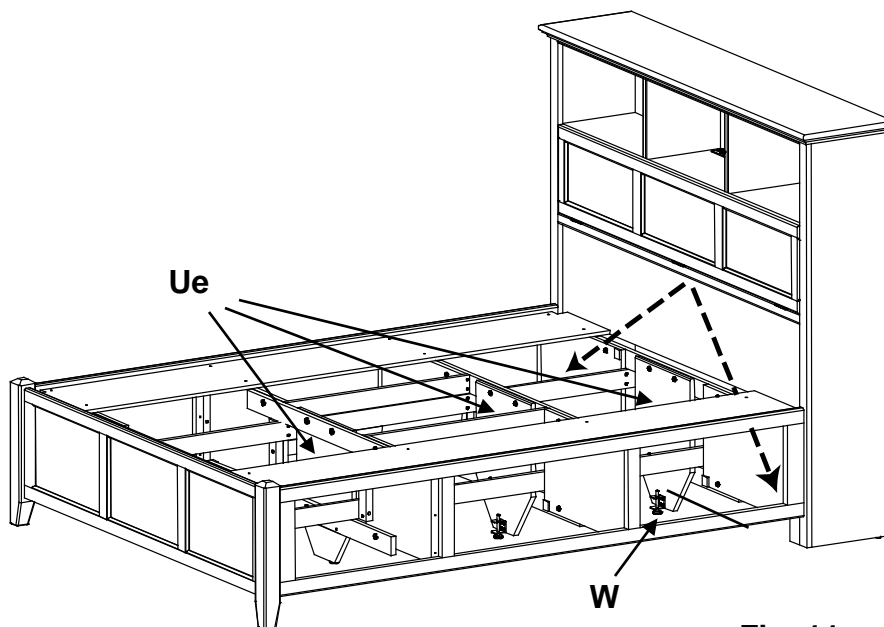

Fig. 11
11. Place your bed in its final position. Adjust all three Glides (W) found at the bottoms of the Assembled Feet (Ue) so that the Glides just touch the floor. See Figure 11. To level the headboard, stand in the open area in between the two attached deckboards and reach through the front of the platform. See Figure 11. Using a slotted screwdriver, rotate the Large Adjustable Glide (YA) clockwise until it bears weight. Repeat for the opposite side. See Figures 11a and 11b.